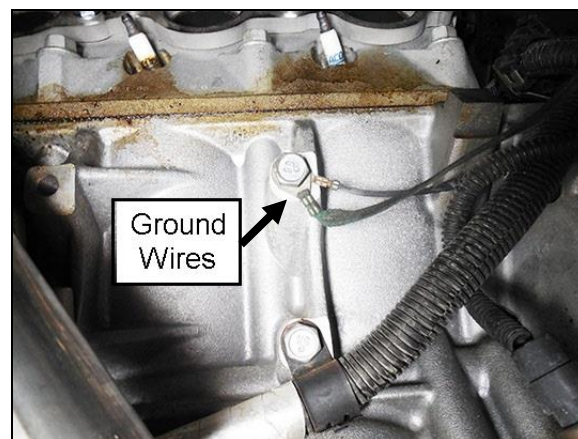

Figure 2
- Remove the 2 lower engine mount nuts at the location shown in **Figure 2**. Raise the engine approximately 1 to 1.5 inches or until the engine mount studs are flush with the bottom of the K-member. Do not force the engine up into the engine compartment, as it should lift off the mounts easily. **STOP LIFTING WHEN YOU FEEL RESISTANCE!!**
- Remove the 15mm bolt on the driver's side of the engine connecting the ground wires to rear of the block (**Figure 2**).